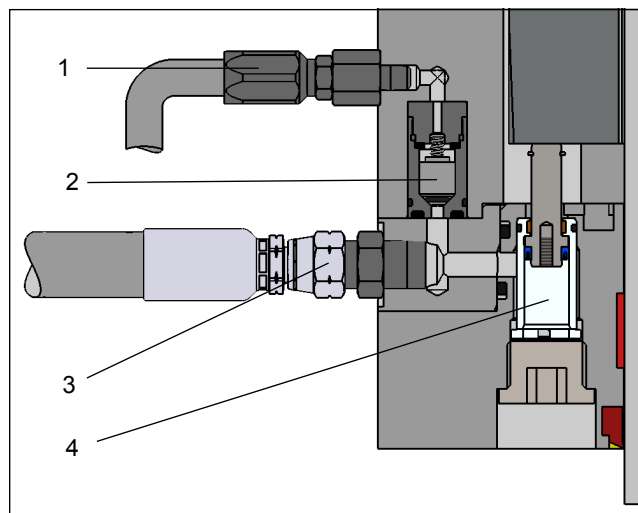

Fig. 4: Auto-bleeder integrated in Safety Catcher series K/TA
For Safety Catchers that have sufficient housing wall thickness, are installed in a fixed position (not moving) and are mounted vertically, the auto-bleeder can be integrated as shown in principle drawing Fig. 4.
A suitable pipe line provided by the customer has to be led from port E (1) Fig. 4 of the auto-bleeder to the tank to drain the exhausted air-oil mixture. Additional information can be found in the manual delivered with the Safety Catcher.
⚠ In any case, it is mandatory to connect a pipe or hose to port E (1) Fig. 4 in order to lead the air-oil mixture exhausted during operation to the tank.